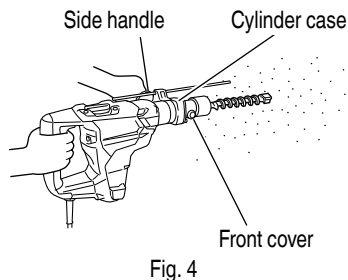

Fig. 4
1. How to drill holes (Fig. 4)